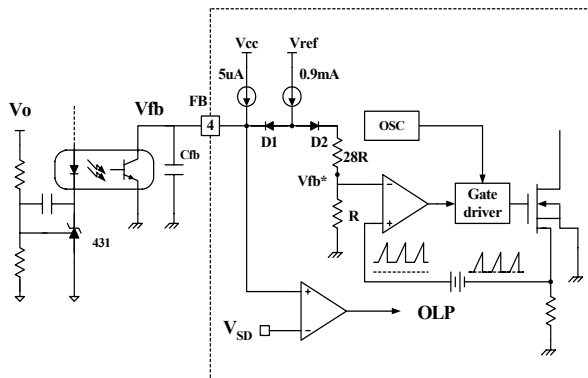

Figure 2. Pulse width modulation (PWM) circuit
2. Feedback Control : The FS6X1220R employs current mode control. The voltage of the feedback pin is compared with the current sense voltage for pulse width modulation (PWM). Figure 2 illustrates the simplified PWM block. The feedback voltage determines the peak drain current of the SenseFET. Usually opto-coupler along with TL431 are used to implement feedback network. The collector of the opto-coupler transistor is connected to feedback pin and the emitter is connected to the ground pin. When the voltage of the reference pin of TL431 exceeds the internal reference voltage of 2.5V, the opto-coupler diode current increases, pulling down the feedback voltage.
3.1 Pulse-by-pulse current limit : As shown in figure 2, the drain current of the power MOSFET is limited by the inverting input of PWM comparator (Vfb*). Assuming that the 0.9mA current source flows only through the internal resistor (28R +R= 2.9k), the cathode voltage of diode D2 is about 2.6V. Since D1 is blocked when the feedback voltage (Vfb) exceeds 2.6V, the maximum voltage of the cathode of D2 is 2.6V. Therefore, the maximum value of Vfb* is about 0.1V, which limits the peak value of the power MOSFET drain current.